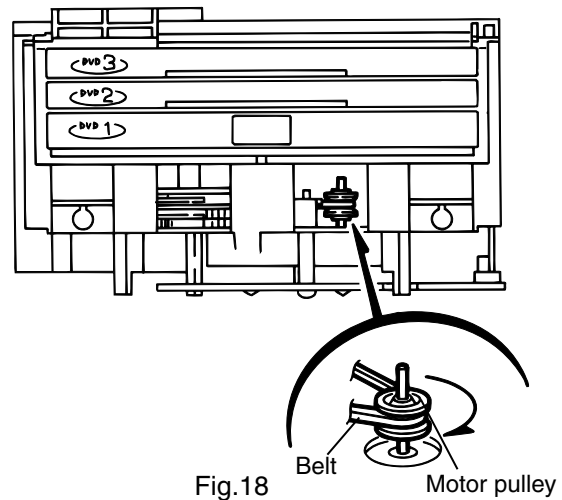

Fig.18
**Ejecting the DVD (See Fig.18 and 19)**